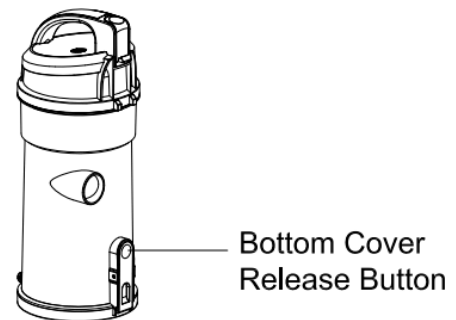

Fig 11
5. Then press the release button. When the release button is pressed, the bottom cover will open and the dust will drop into your trash receptacle. (Fig 11)